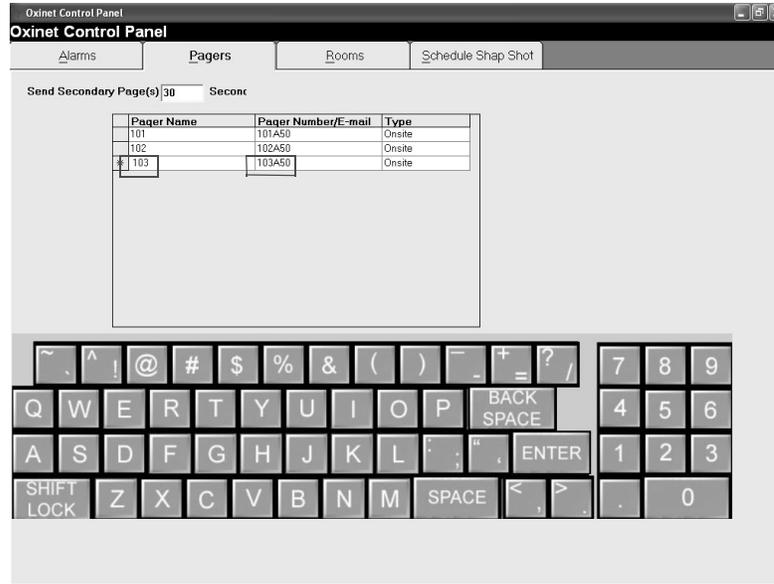

Figure 27: Pagers Menu — Entering Pager Name
- Press (or click) the cell in the *Pager Name* column and type the pager number, for example **103** (Figure 27).
- 3A Press (or click) the cell in the *Pager Number/E-mail* column and type the pager name and number, for example **103A50** (Figure 27) — the pager number is indicated on the back of the pager (in this example the pager number is 103).